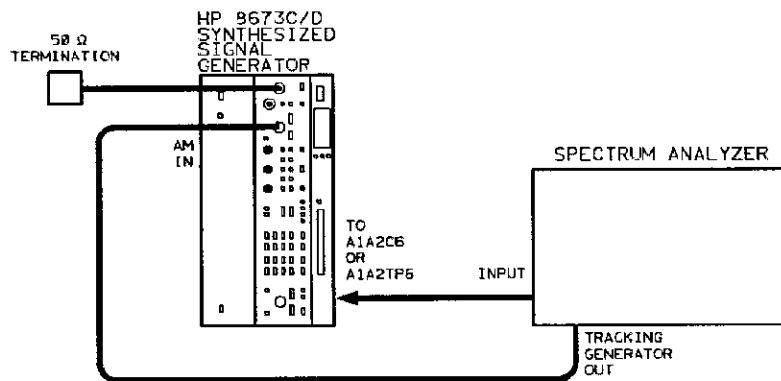

Figure 5-43. AM Bandwidth Adjustment Test Setup
- 1 Connect the equipment as shown in figure 5-43.